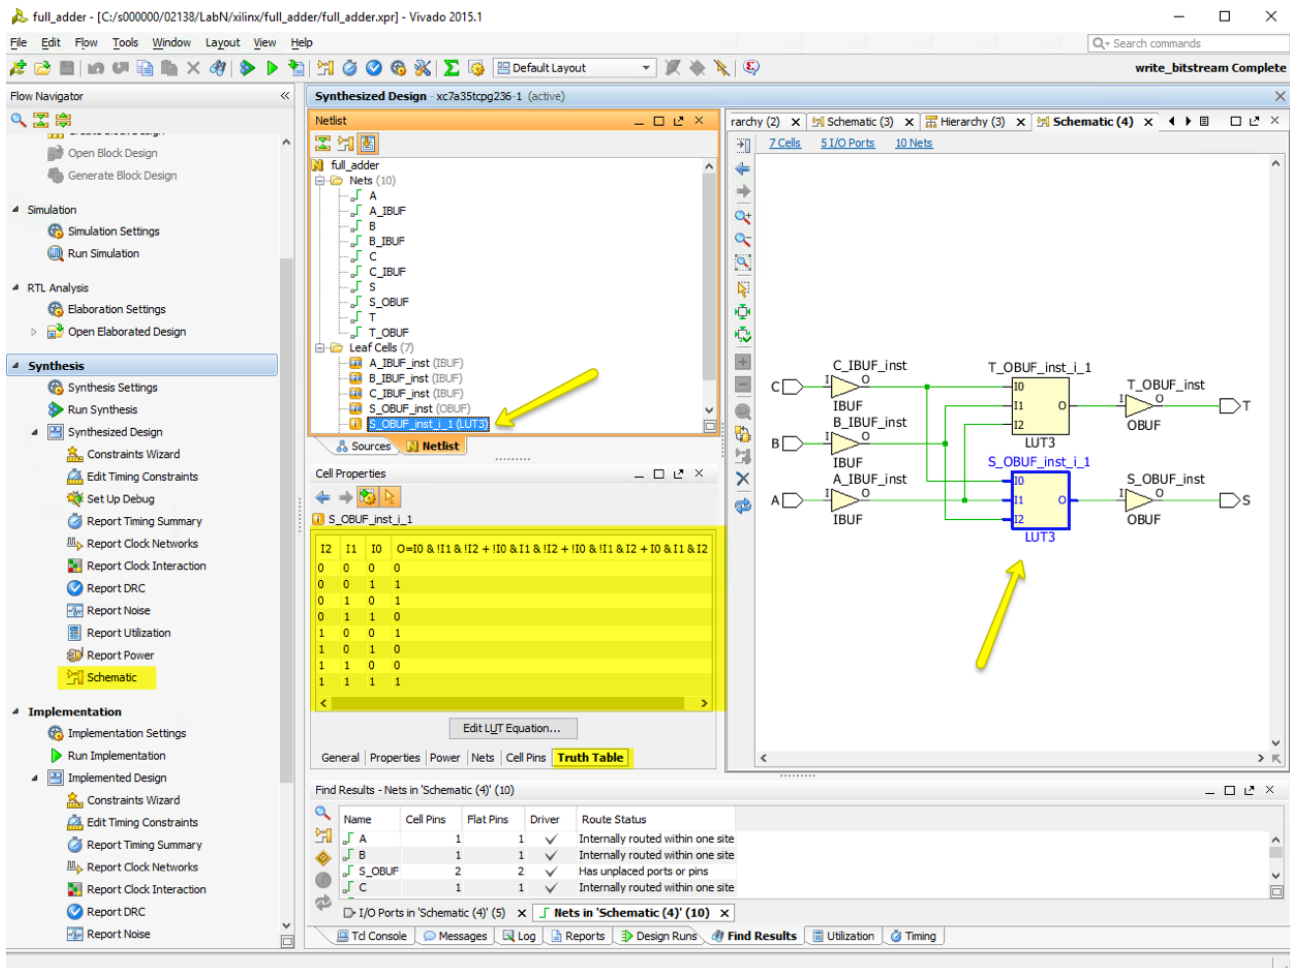

Figure 24. Schematic of the synthesized design
27. If you want to get more details about the synthesized design you can go to the “Flow Navigator” window (on the left side of the Vivado tool) and select “Synthesis -> Synthesized design -> Schematic”. See Figure 24.
In Figure 24 you can see that it's possible to get information like how the schematic of your design is, what is the truth table stored in the lookup tables used to implement your design, how the components are wired together, etc.